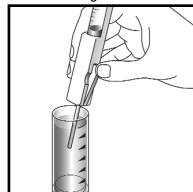

Figure 5
6. Hold the Titrettor with the sample pipe in the sample. Press the control bar firmly, but briefly, to pull in a small amount of sample (fig. 5).
7. Press the control bar again to draw another small amount of sample into the ampoule (fig. 5).